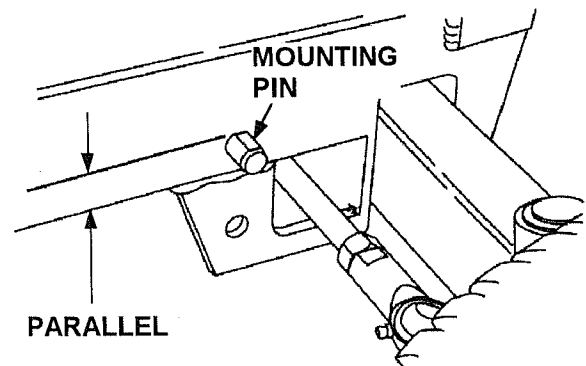

FIGURE 3
6. (See figure 3) Install mounting pins as shown to both sides of chassis. Use 1/2" lockwasher and jam nut. Position the flat sides of mounting pins parallel to frame.